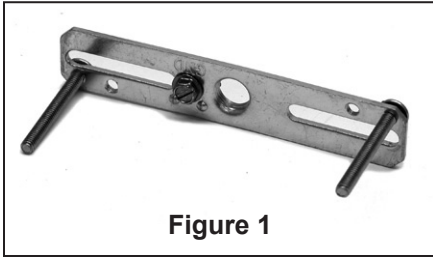

Figure 1
1. Assemble two (provided) Threaded Rods on the Crossbar. (Figure 1)